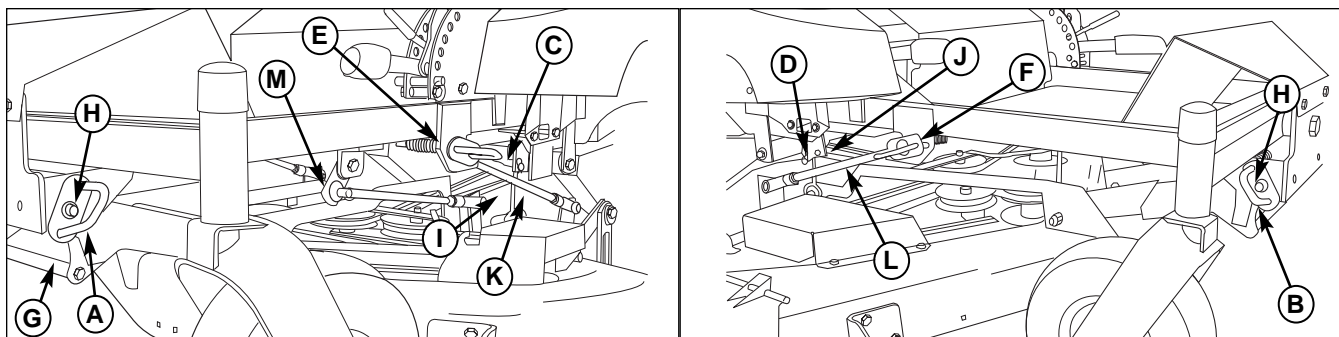

Figure 19. Mower Installation & Removal
7. Pull the hair pins (C & D, Figure 19) and disconnect the deck leveling links (I & J). Pull the hair pin and disconnect the roller bar connecting rod (M). Pull and turn the rod locks (A, B, E & F) to release the rod ends.
8. Lift the front of the deck using a 2 x 4 as a lever, pull the handle (G) forward to release the front hangers rod ends (H), then push rearward to release the rear rod ends.